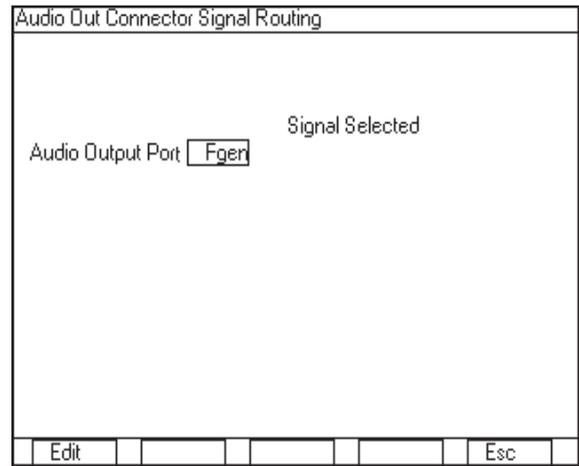

Figure 12 - Audio out connector signal routing
24. Move the cursor to the Aud Out field and press the zoom softkey. The Aud Out setup screen should appear (See Figure 12)